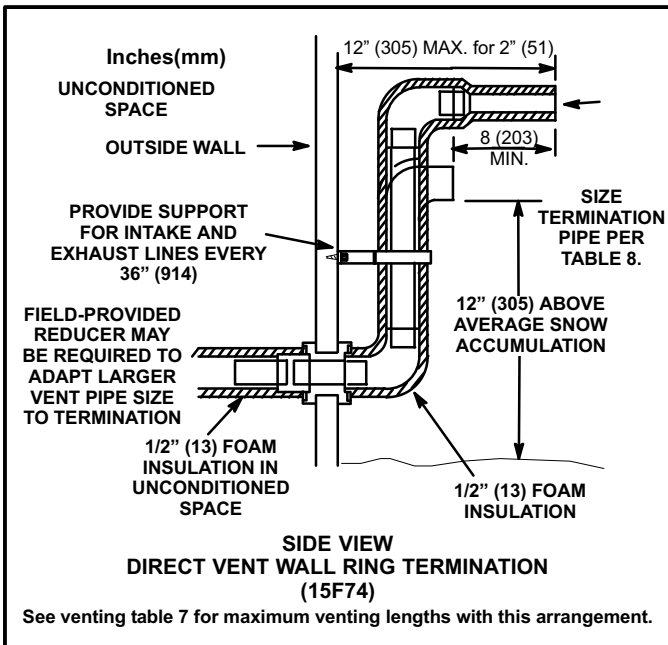
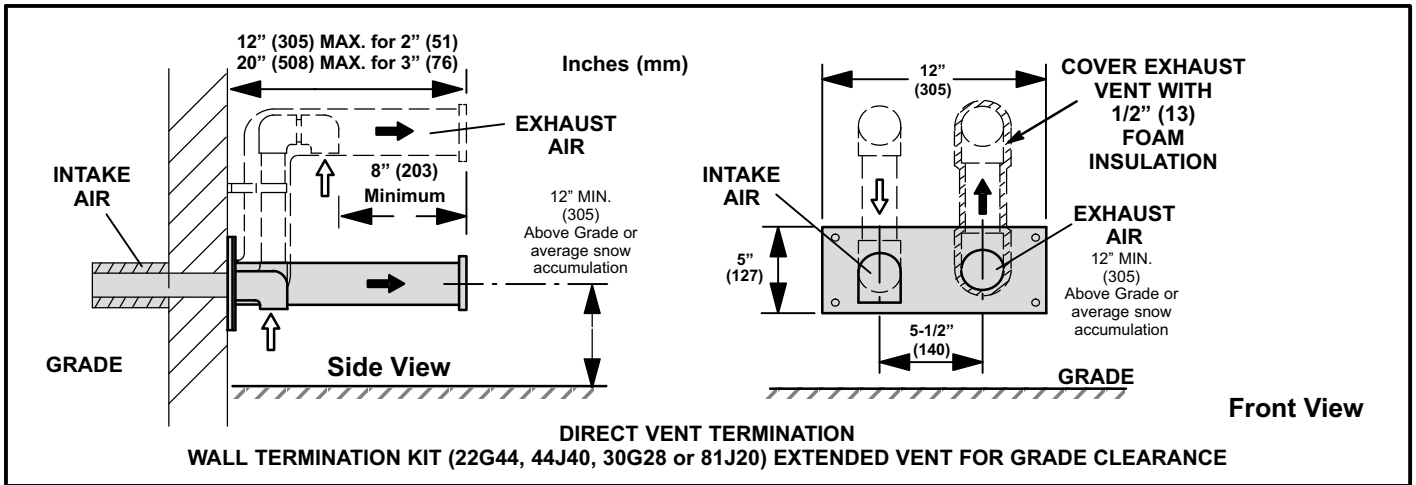

FIGURE 35
FIGURE 38
- 8 - If intake and exhaust piping must be run up a side wall to position above snow accumulation or other obstructions, piping must be supported every 3 ft. (.9m) as shown in figure 22. Refer to figure 35 for proper piping method. In addition, WTK wall termination kit must be extended for use in this application. See figure 38. When exhaust and intake piping must be run up an outside wall, the exhaust piping must be terminated with pipe sized per table 8. The intake piping may be equipped with a 90° elbow turndown. Using turndown will add 5 feet (1.5m) to the equivalent length of the pipe.